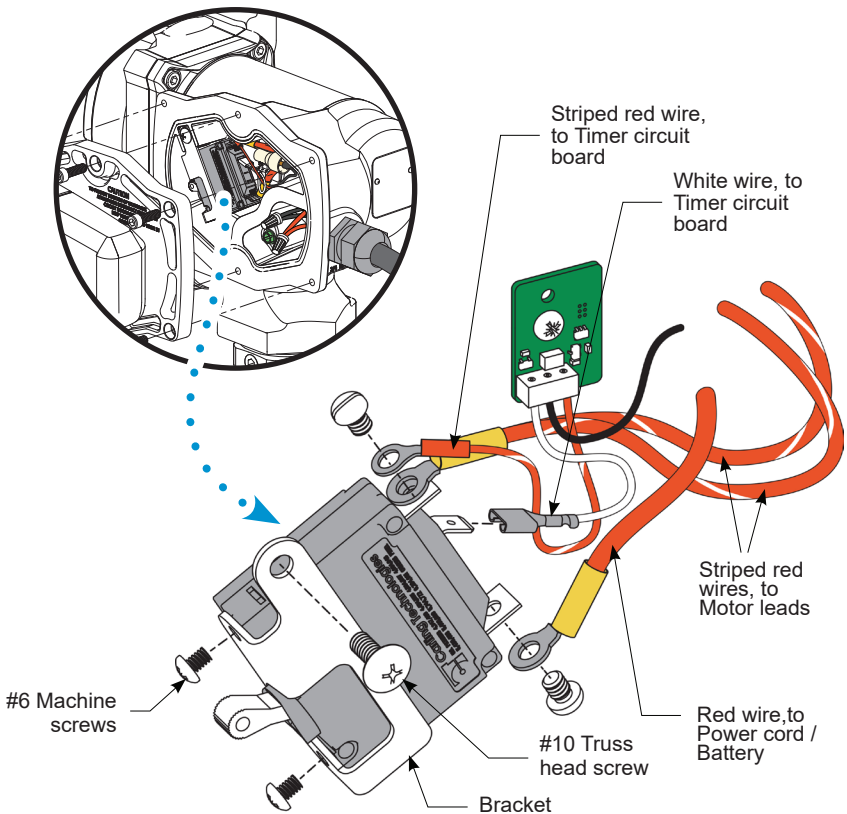

Figure 4
2. Using a 4mm Hex wrench remove the (2) BHCS and nozzle cover.
4. Remove the (6) M6 SHCS and electrical cover plate from the motor housing.
5. Remove the (1) #10 truss head screw and switch bracket with switch assembly (see Figure 4).
7. Unscrew/unplug three blade terminals and remove red and white wires from the switch (see Figure 4). Take note of which wire is attached to each blade terminal for reinstallation.